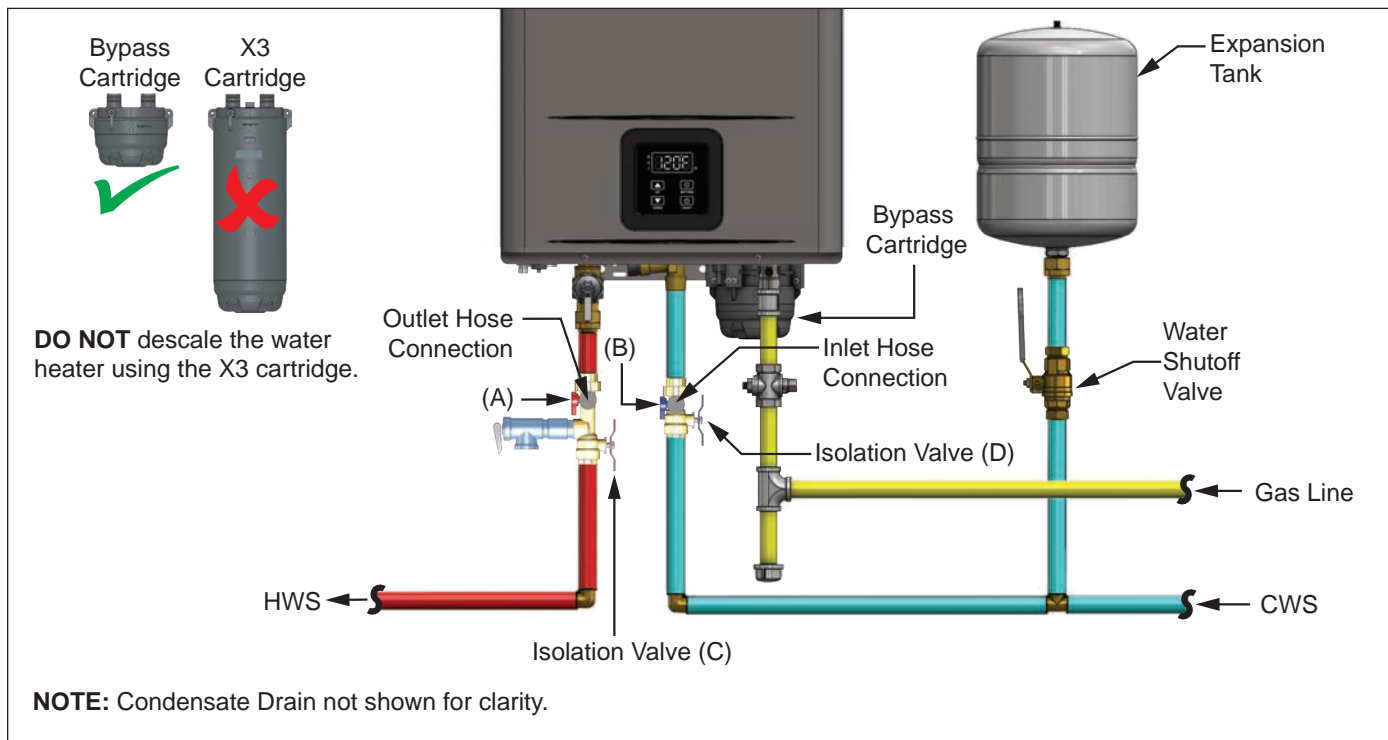

Figure 6 - Descaling the water heater
- Water heater isolation valve kits, installed on both the cold water inlet and hot water outlet of the water heater X3 Bypass Cartridge (see Figure 6).
- 1 Close the isolation valves (C & D) to stop the main inlet and outlet flow of water to the house (see Figure 6).